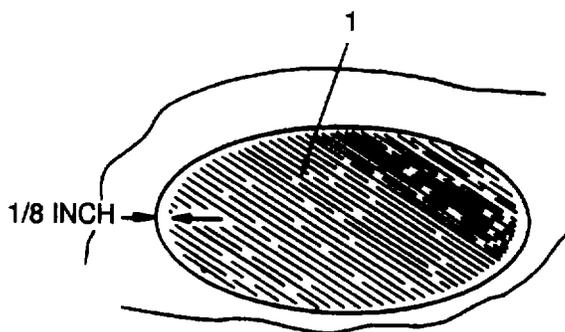

Figure 2-30. Applying Adhesive Over Area No More Than 1/8 Inch Buffed Area
(k) Prepare new batch of adhesive (item 1, table 2-11) and carefully apply a uniform coat over patched area (1, figure 2-30) to no more than 1/8 inch buffed area edge. Use a brush (item 6, table 2-11). Smooth surface with gloved fingers wet with acetone (item 3, table 2-11) and remove any excess adhesive from unbuffed area with a dean cloth (item 16, table 2-11) and acetone (item 3, table 2-11). Wear gloves (item 4, table 2-11).
(k) Prepare a new batch of adhesive (item 1, table 2-11) and carefully apply a uniform (liberal/heavy) coat of adhesive mixture (1, figure 2-30) over previous coats of barrier adhesive to within no more than 1/18 inch of O.D. of buffed edge area. Use a brush (item 6, table 2-11). Smooth surface with gloved fingers wet with acetone (item 3, table 2-11) and remove any excess adhesive from unbuffered area Use dean cloth dampened with acetone (item 3, table 2-11). Wear gloves (item 4, table 2-11).
(q) Prepare a new batch of adhesive (item 1, table 2-11) and carefully apply a uniform coat of repair adhesive (1, figure 2-30) over patched area to within no more than 1/8 inch of O.D. of buffed edge. Smooth surface with gloved fingers wet with acetone (item 3, table 2-11). Use a brush (item 6, table 2-11). Remove any excess adhesive with cloths dampened with acetone (item 3, table 2-11). Wear gloves (item 4, table 2-11).